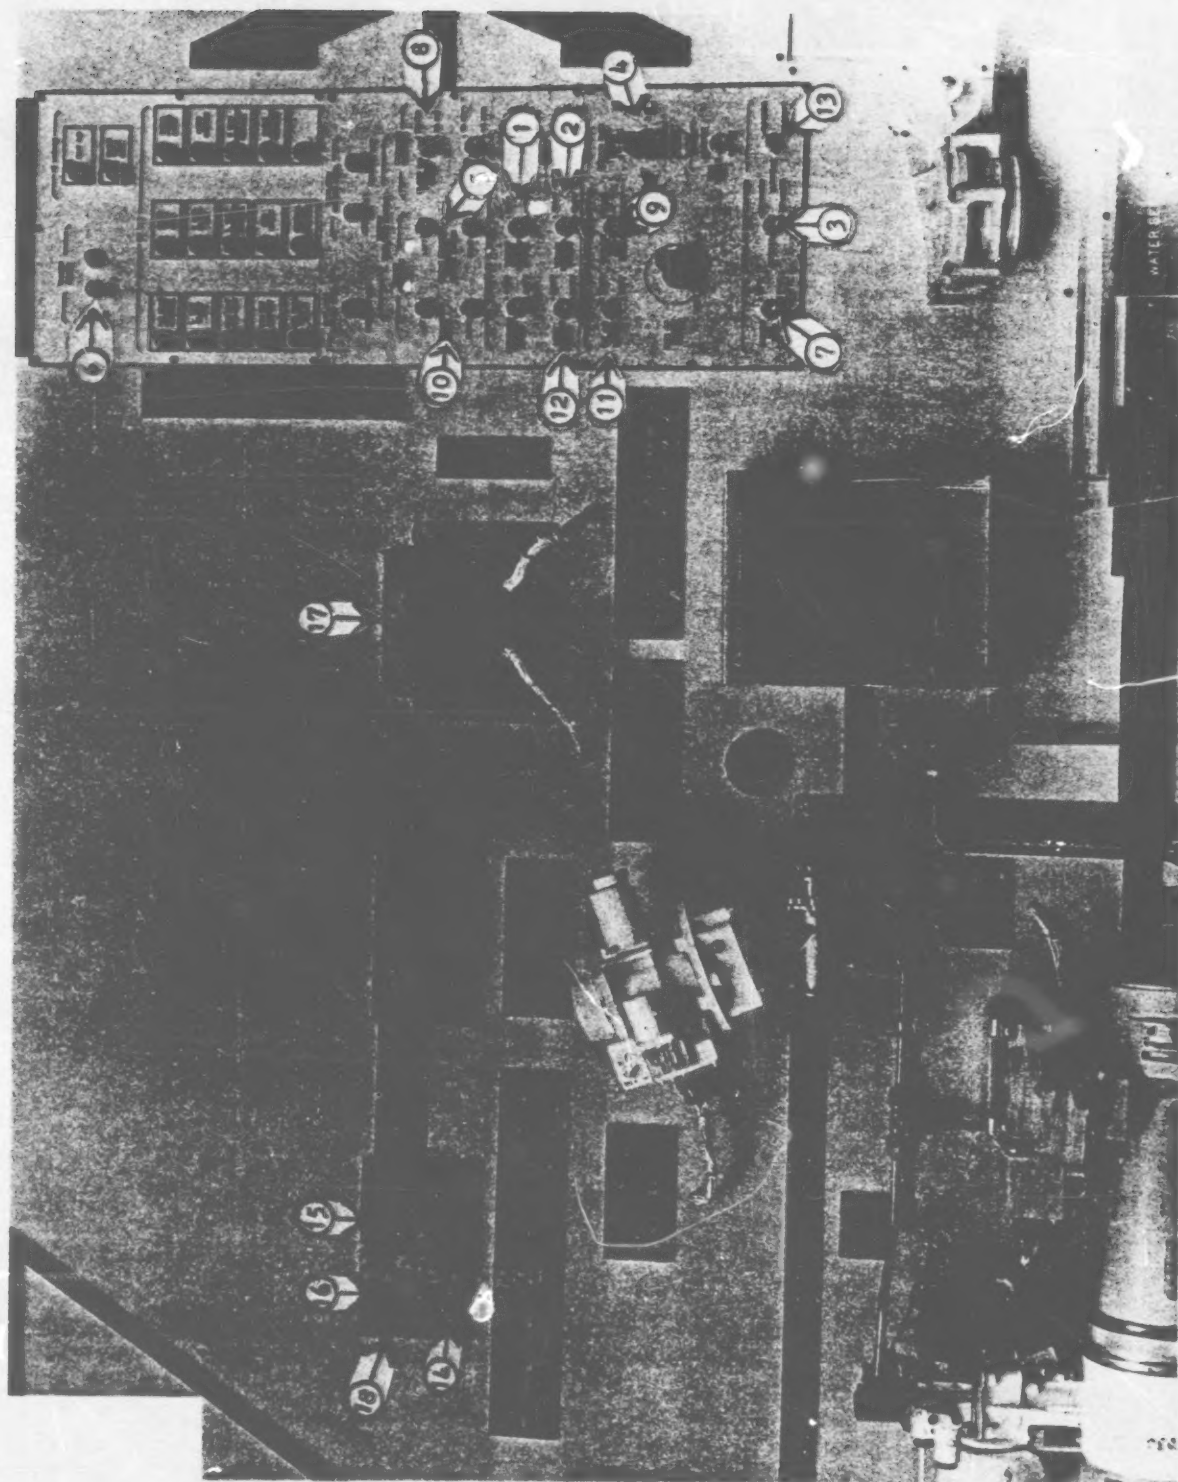

Figure 3.
c. Using the trainer and figure 3, find each of the numbered parts. Write the number that goes to the name of each of these parts in the blank space to the left of the name.
ANSWERS FIGURE 3